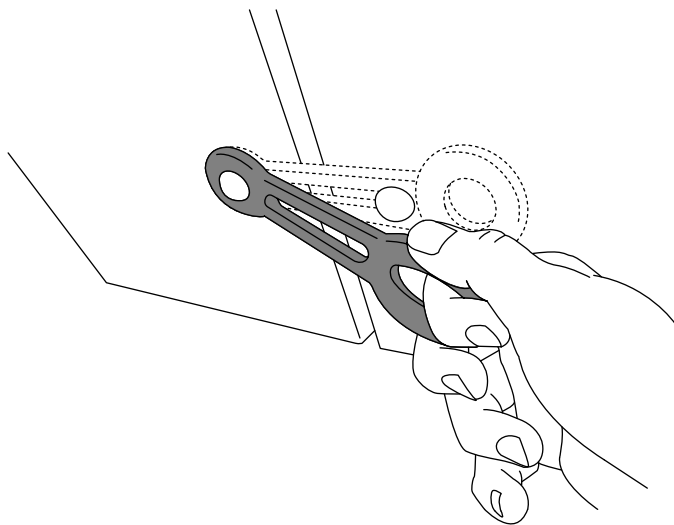

Figure 13
4. Close the cowl and secure the cowl latches (Figure 13).